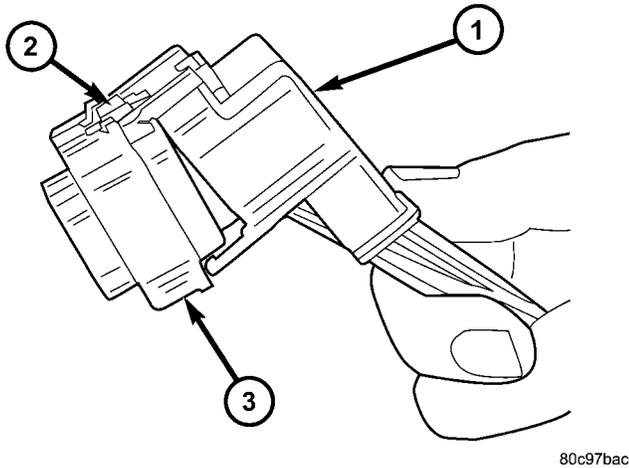

Fig. 10 REMOVAL OF DRESS COVER
- (1) Disconnect battery.
- (2) Release Connector Lock (Fig. 10).
- (3) Disconnect the connector being repaired from its mating half/component.
- (4) Remove the dress cover (if applicable) (Fig. 10).